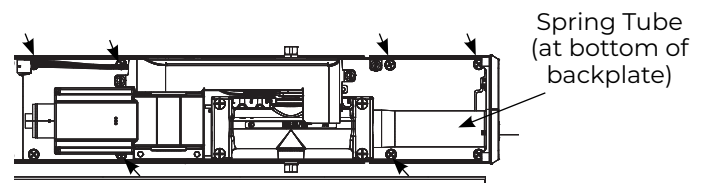

Figure 12 Remaining LAP Mounting Screws - Left Hand View
4. For each LAP, use six (6) 1/4-20 x 1/2" Phillips head screws to secure. (Figure 12)